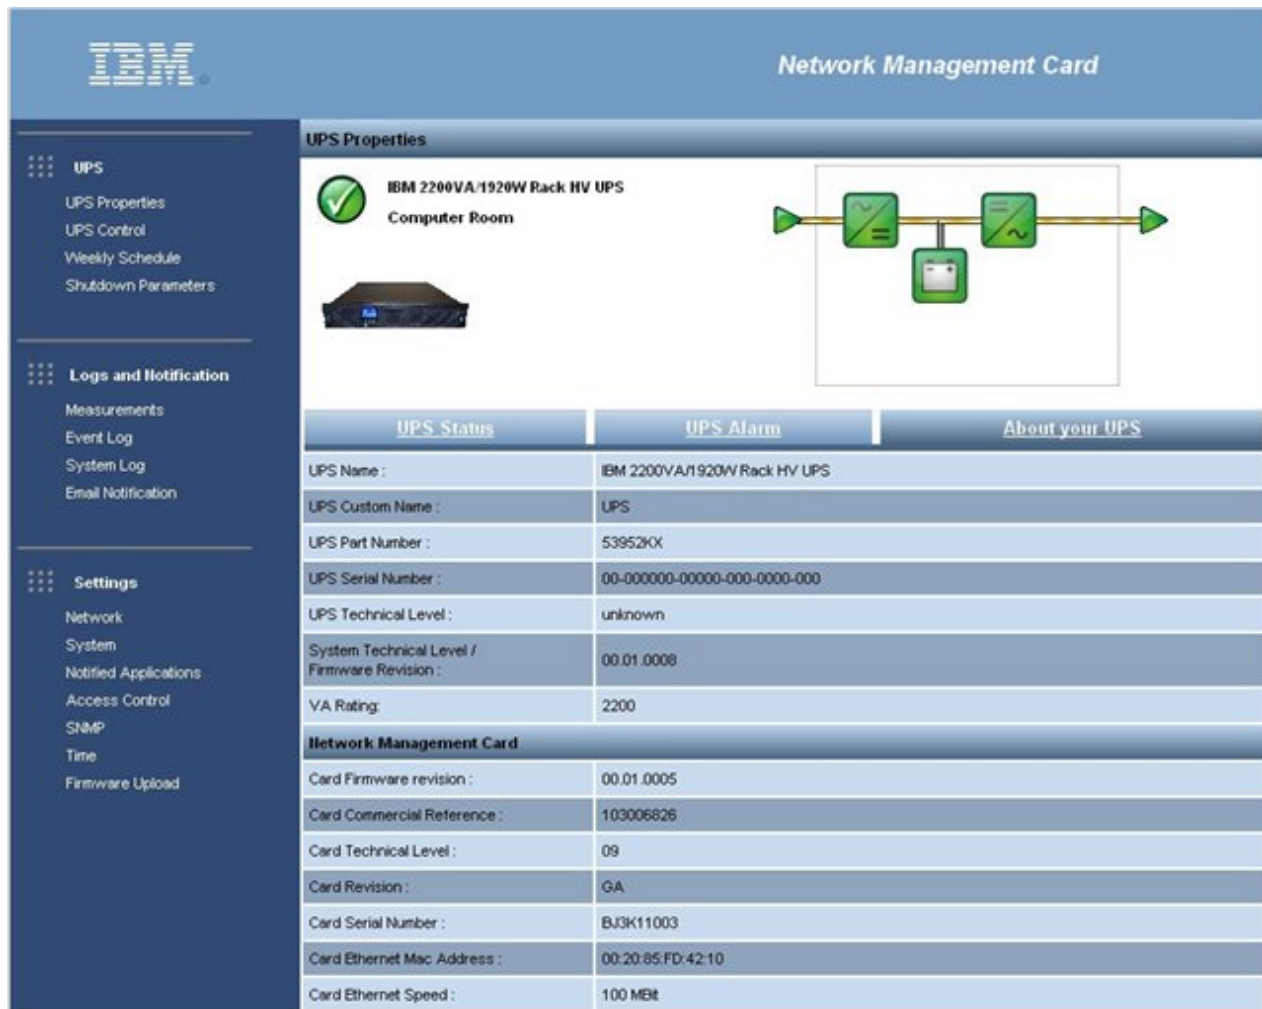

Figure 6. IBM LCD UPS Network Management Card (NMC) UPS properties window
- Allows configuration of automatic email messages in response to UPS alarms and to transmit periodic reports (see Figure 6)
Figure 6 shows the Network Management Card UPS properties window.